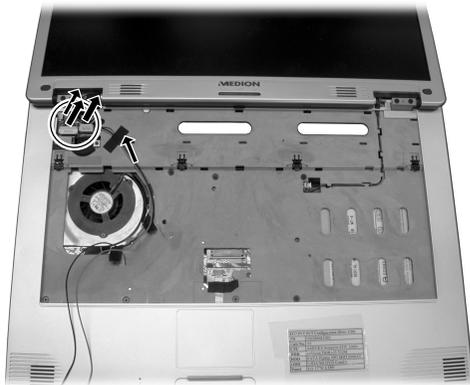

Figure 2-16 Disconnect the three cables and separate the antennae
5. Disconnect the three cables from the system board and separate the antennae. (Figure 2-16)